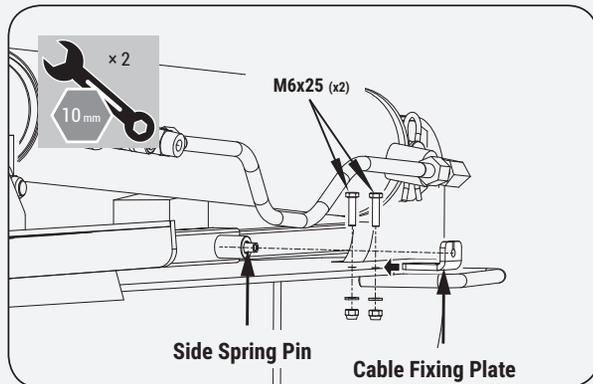

Figure 14a
1. Install the cable fixing plate, paying attention to keeping the fixing plate hole in line with the center of the side spring pin. (See **Figure 14a.**)